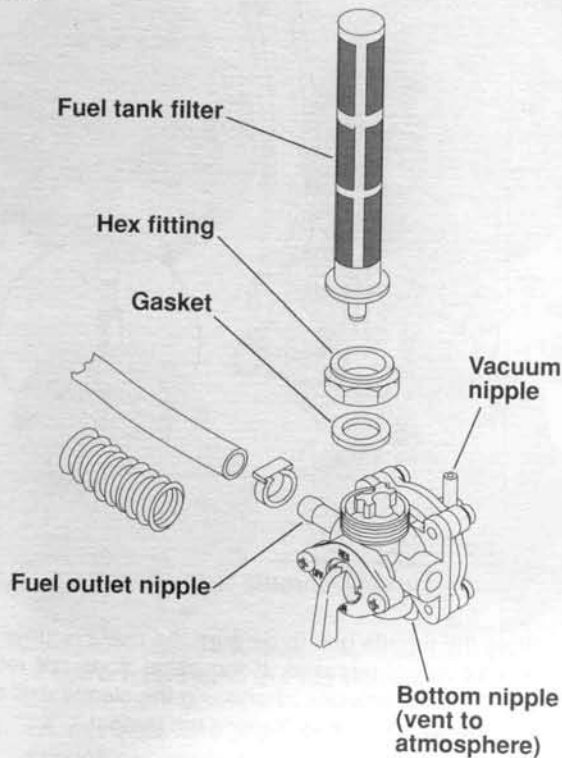

Figure 1-14. Fuel Supply Valve
1. See Figure 1-14. Turn handle to OFF (horizontal) position. Remove the fuel hose from the outlet nipple and remove the vacuum hose from the vacuum nipple.